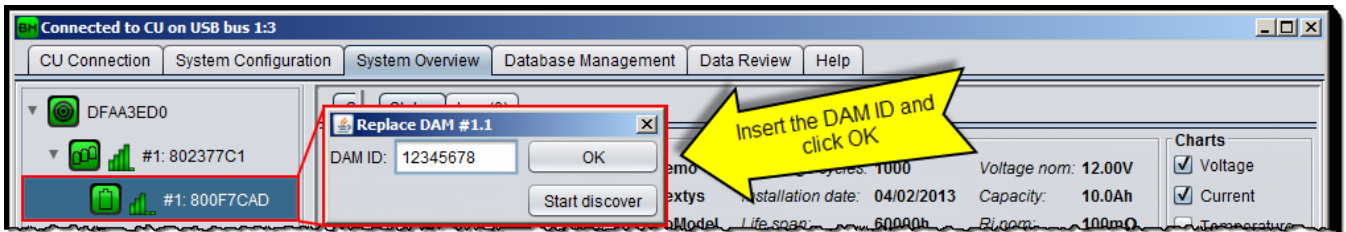

Figure 51: Battery installation date
2. On the opened dialog insert the ID of the new IDAM either automatically (activating the discover option) or manually and click “OK” (see Figure 51) to confirm.
2. On the opened dialog insert the installation date (the current date is entered by default) and click “OK” (see Figure 51) to inform the system that a new battery has been installed.